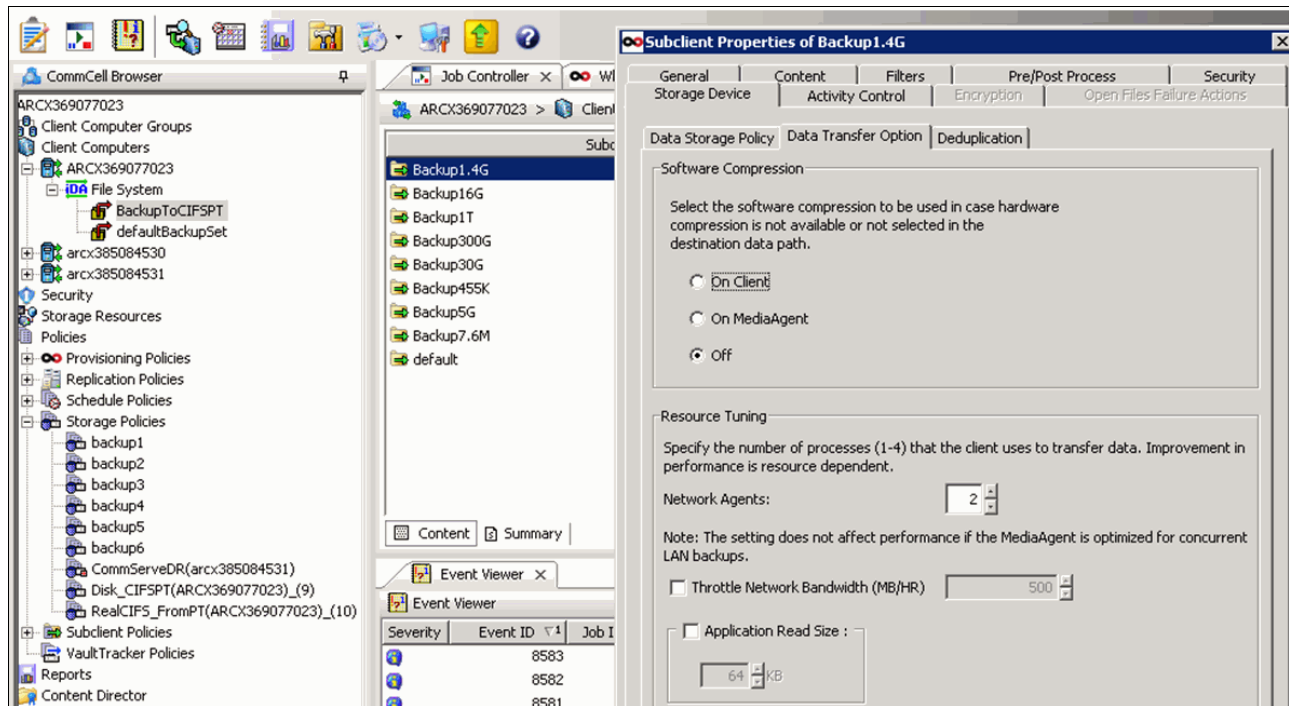

Figure 19-20 Set software compression off
- Click the **Data Transfer Option** tab and select **Off** for the Software Compression option for this subclient (Figure 19-20).